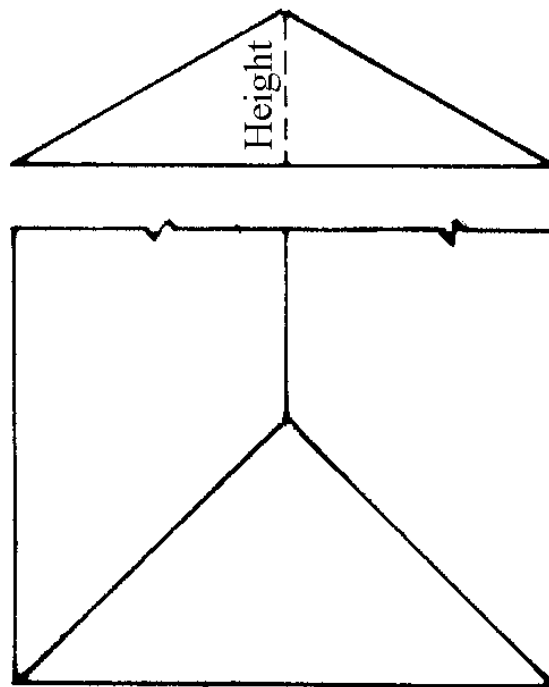

Fig. 5
19. Figure 5 shows the elevation and part plan of a hipped ended roof.